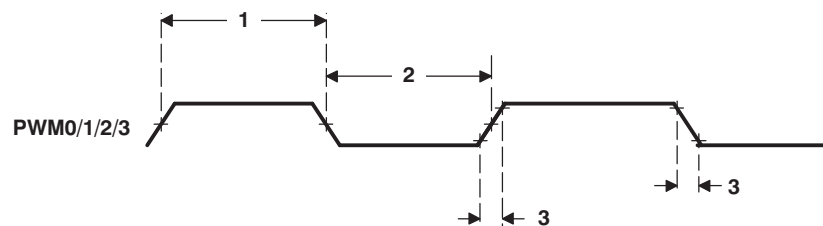
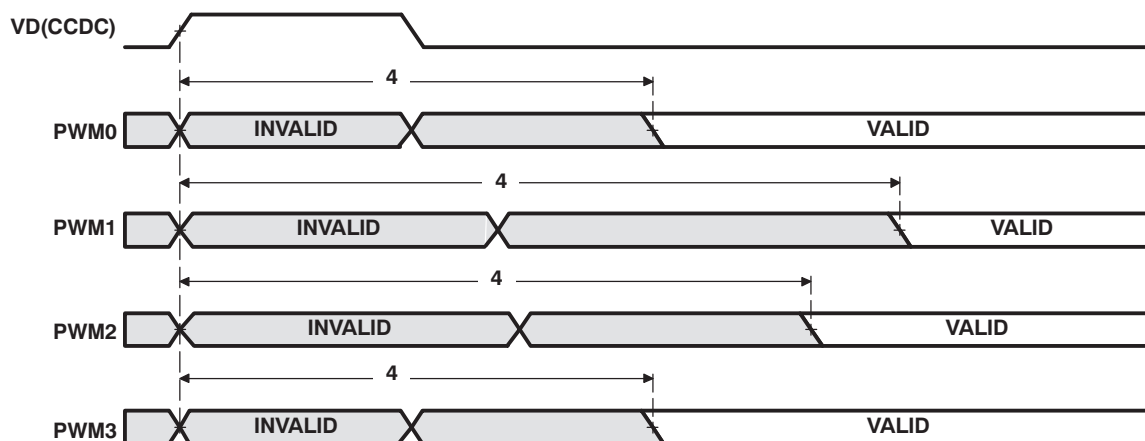

**Figure 5-47. PWM Output Timing**
Figure 5-48. PWM Output Delay Timing
**Table 5-46. Switching Characteristics Over Recommended Operating Conditions for PWM0/1/2/3 Outputs(1) (see Figure 5-47 and Figure 5-48)**